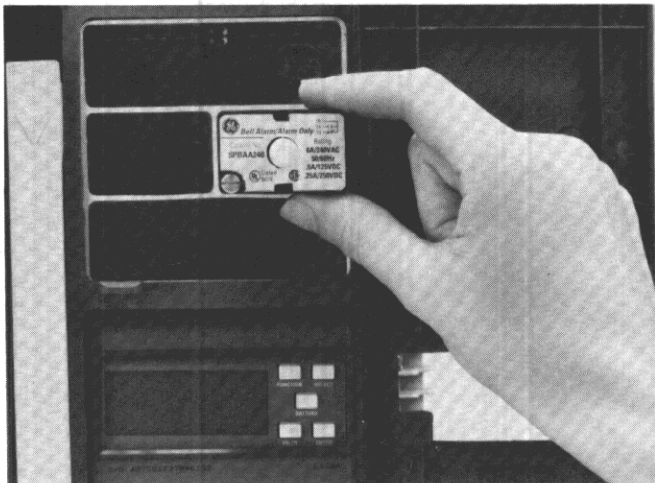

Figure 4. Inserting the Bell Alarm-Alarm Only into the accessory compartment.
3. Insert the Bell Alarm-Alarm Only into the proper slot, as illustrated in Figure 4. The Bell Alarm-Alarm Only module is keyed for the correct slot in the accessory compartment. If the module cannot be fully seated in the compartment, check that the compartment position is correct.